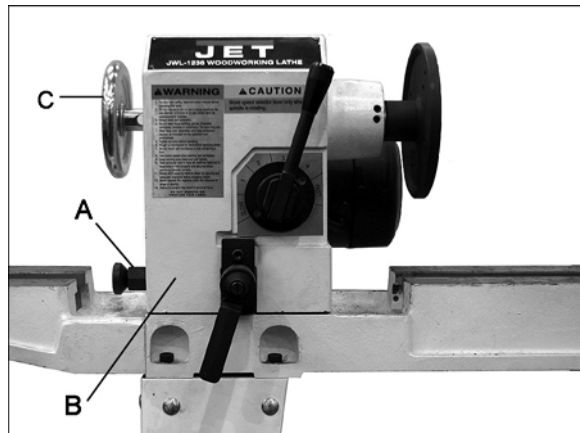

Figure 2
Referring to Figure 2:
12. Insert index plunger (A, Figure 2) into the base of the headstock (B, Figure 2) and tighten.
13. Mount the handwheel (C, Figure 2) to the headstock. Note: The handwheel must be removed whenever the drift rod is to be used.